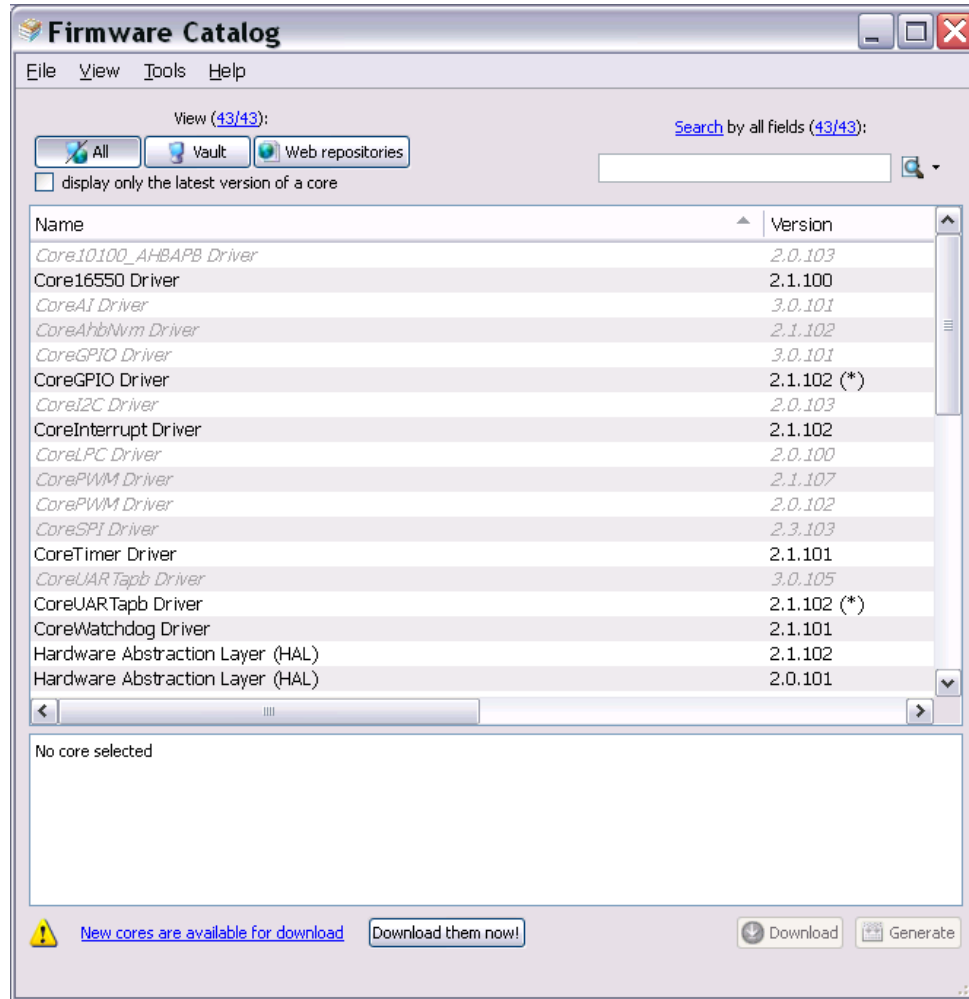

Figure 11 Firmware Catalog
1. Launch Firmware Catalog using **Start → All Programs → Microsemi Libero SoC v 10.0 → Firmware Catalog v 10.0 → Firmware Catalog**. The Firmware Catalog is displayed, as shown in Figure 11.